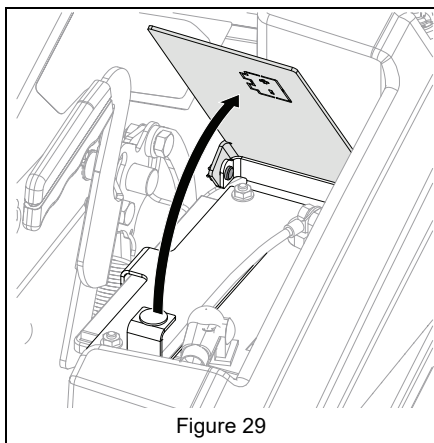

Figure 29
3. Lift battery cover. See Figure 29.